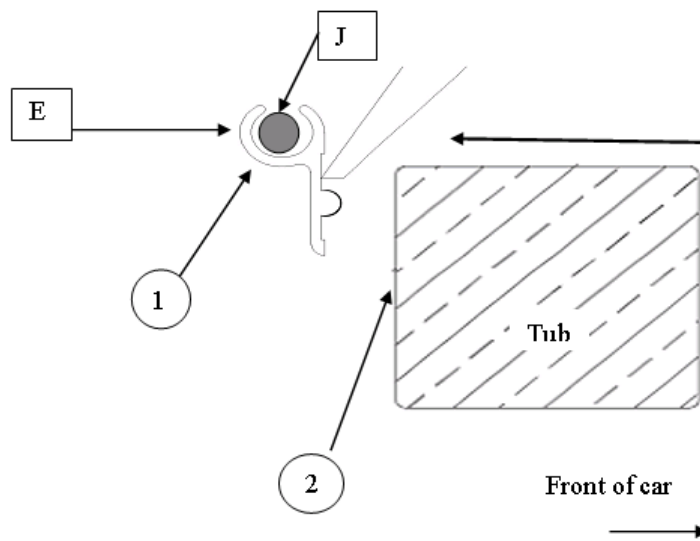

Figure 1: Placement of aluminium rope track. Ensure channel is above the tub's top edge.
1. Using two pieces of dowel, join the 3 aluminium rope tracks together Place the other 2 pieces of dowel in the ends of the now joined rope track. Rest the aluminium rope track on the side rails, ensure the flat side of the rope track is the surface positioned against the tub face. **See Figure 1**